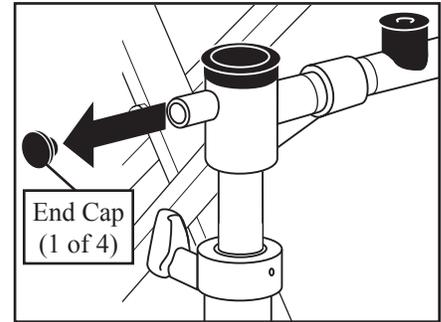

Figure 2 - Remove the End Caps from the Church Truck
2. **On the church truck:** Remove the four plastic end caps from the crosstubes (Figure 2). If the drape frame will **not** remain on the church truck permanently, keep the end caps.